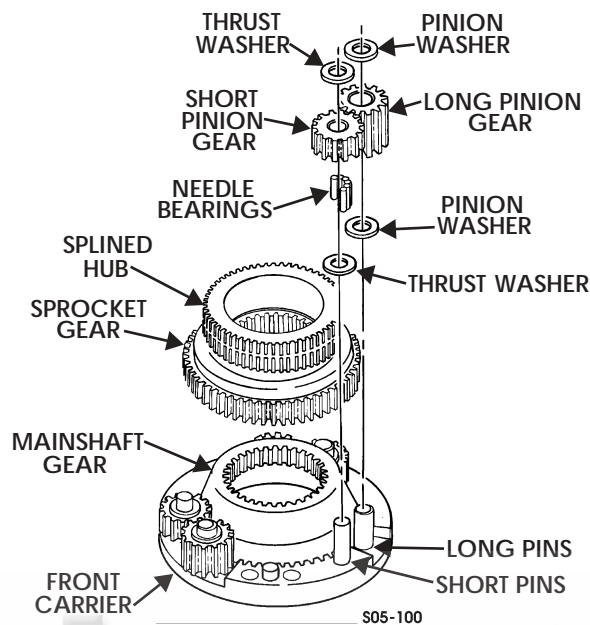

Figure 5-155: Pinion Location
11. Place sprocket gear over mainshaft gear, with splined hub of sprocket gear up (Figure 5-155).